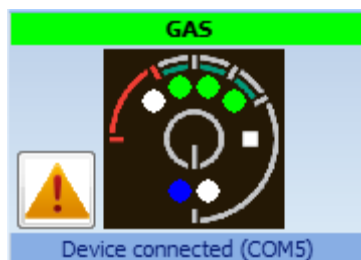

Fig. 3.4 Virtual panel with state bar and triangle informing about errors.
- State of the gas ECU bar – indicates current state of the gas ECU (Fig. 3.4).
- Virtual panel – work like a real control panel: clicking on the panel image using left mouse button switches from petrol to gas and from petrol to gas, coloured diodes indicate the gas level. (Fig. 3.4).
- Program state bar – indicates the state of the program (device connected, working off-line¹, updating firmware) (Fig. 3.4).
If gas controller registers any errors the yellow flashing triangle appears next to the virtual panel (Fig. 3.4). Left-clicking on it opens Diagnostic errors window in Diagnostics tab.